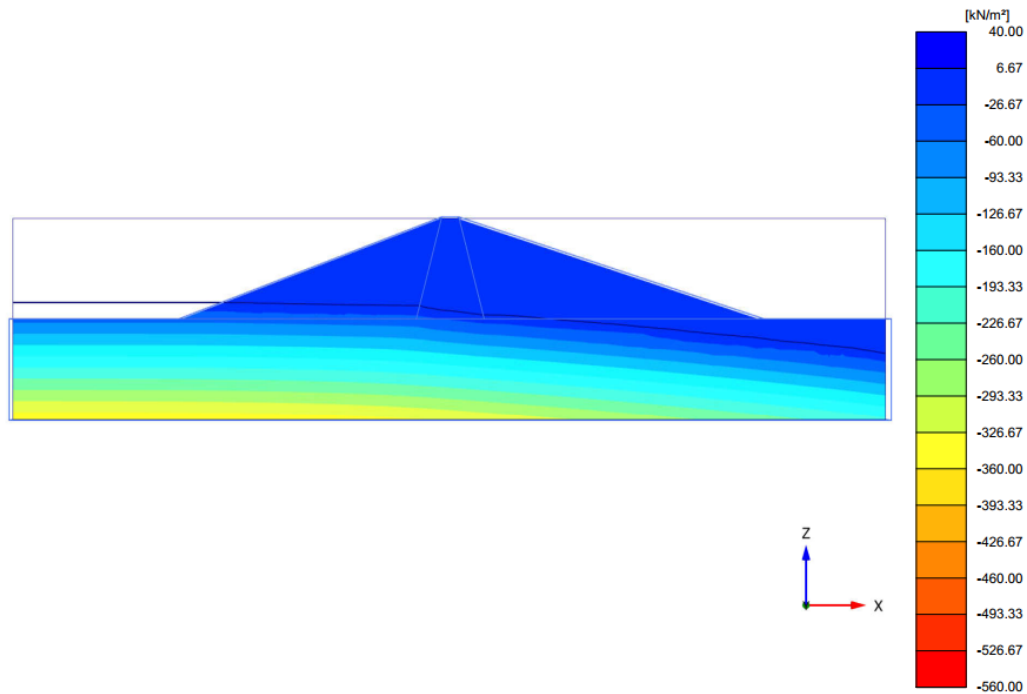

Figure 123: Pore water pressure distribution for low reservoir level (Phase_3)
- The situation with a low reservoir level - See Figure 123 (on page 149).